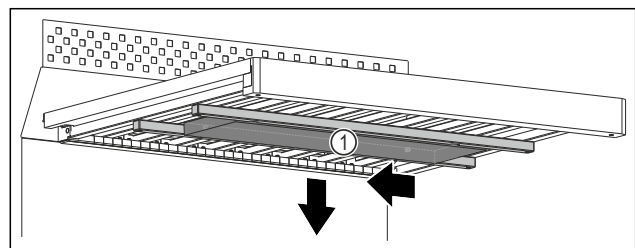

Fig. 124
- ▶ Push the water box Fig. 124 (1) to the left.
- ▶ Remove the water box Fig. 124 (1) downwards.